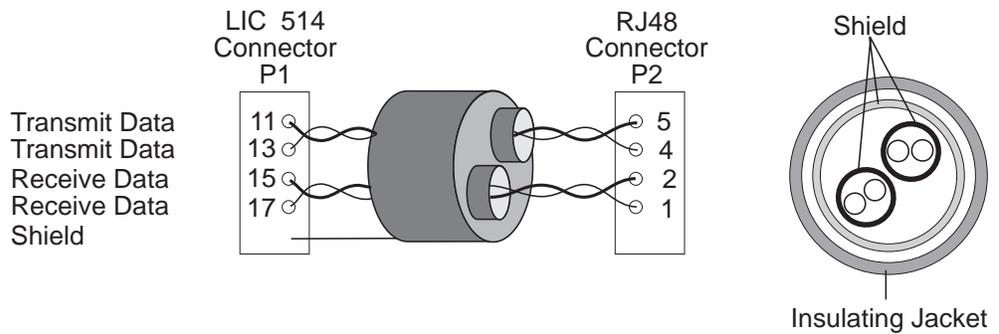
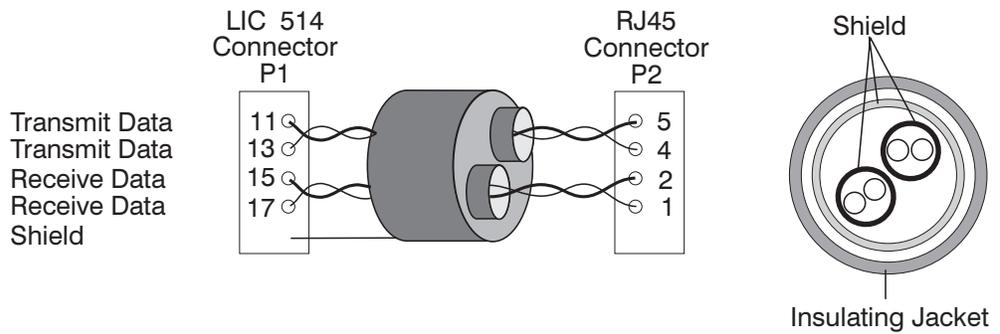

Figure 2-73. LIC514 RJ-48 T1 Cable Pin Assignment
Figure 2-74. LIC514 RJ-45 J1 Cable Pin Assignment
- Two twisted pairs, AWG 24, 100 ohms (see Figure 2-73 on page 2-46 and Figure 2-74 on page 2-46).